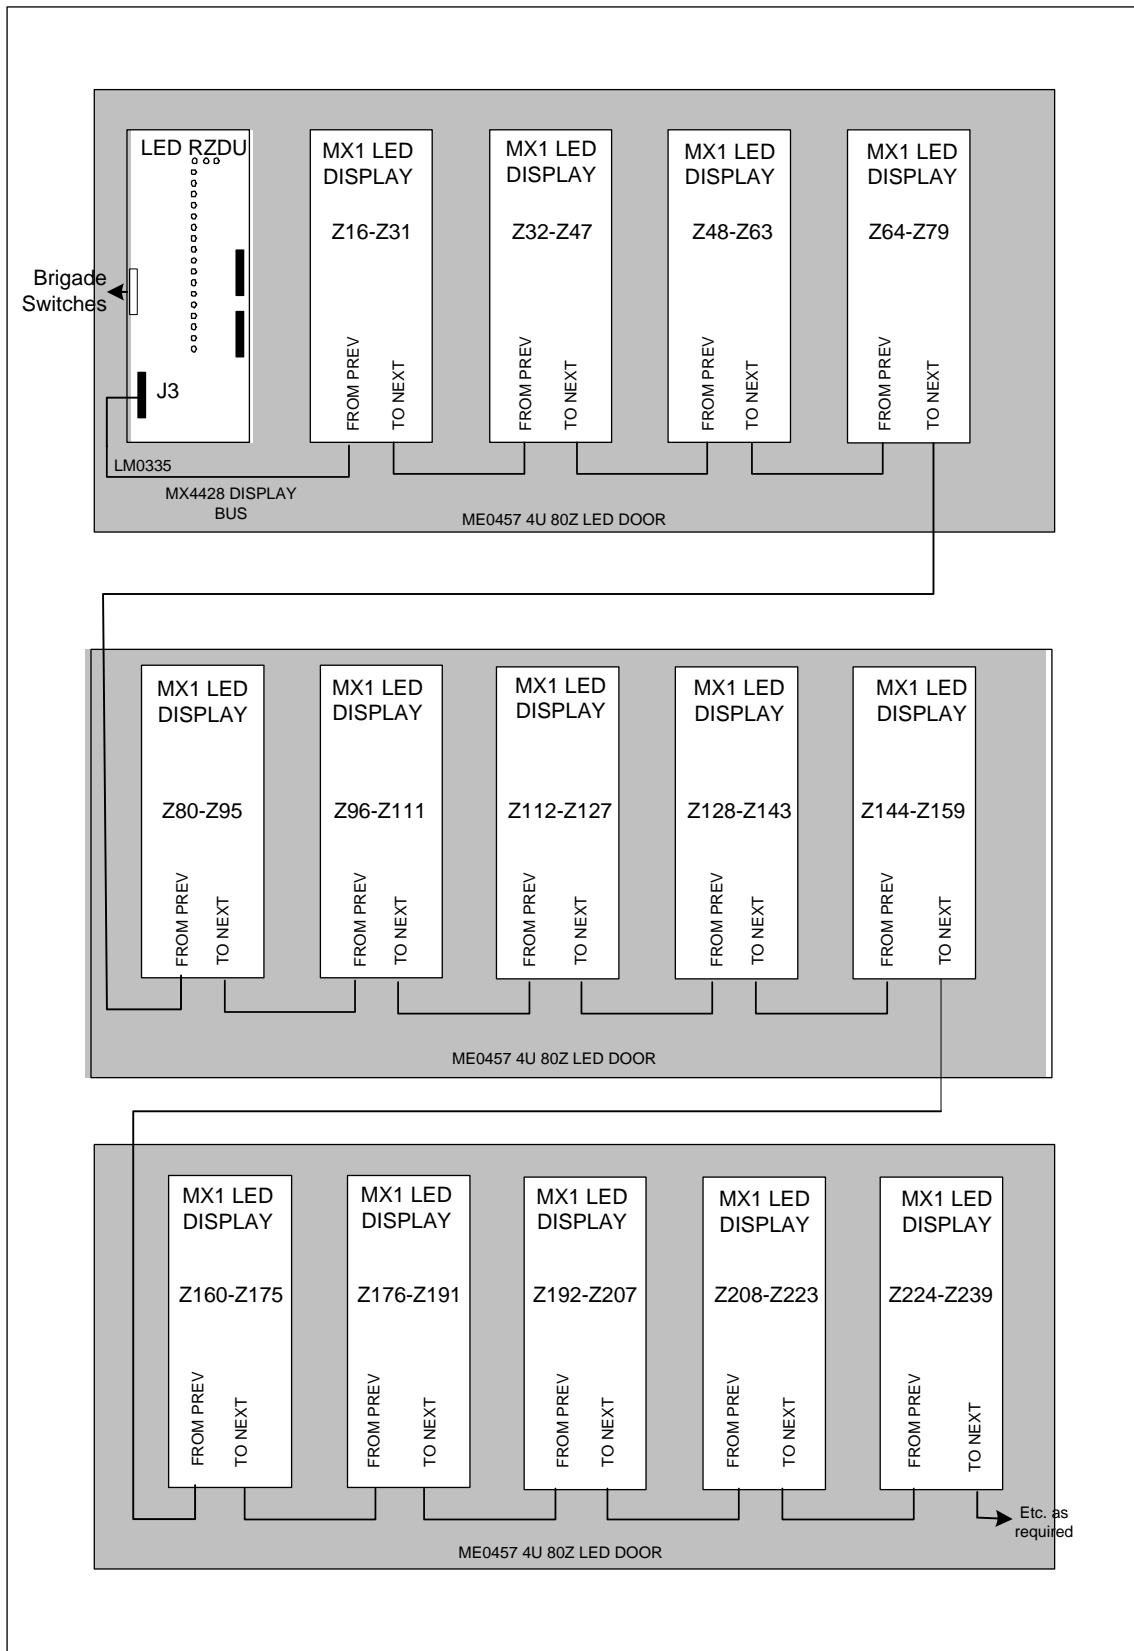

Fig 11.1 – Front Service Rackmount Display with MX1 LED Display Boards
- 4U rackmount 80-zone display doors (ME0457) with *MX1* format 16-zone LED display boards (FP1002) to display zone Alarm and (optionally) Fault/Isolate on 2 LEDs (Figure 11.1), or